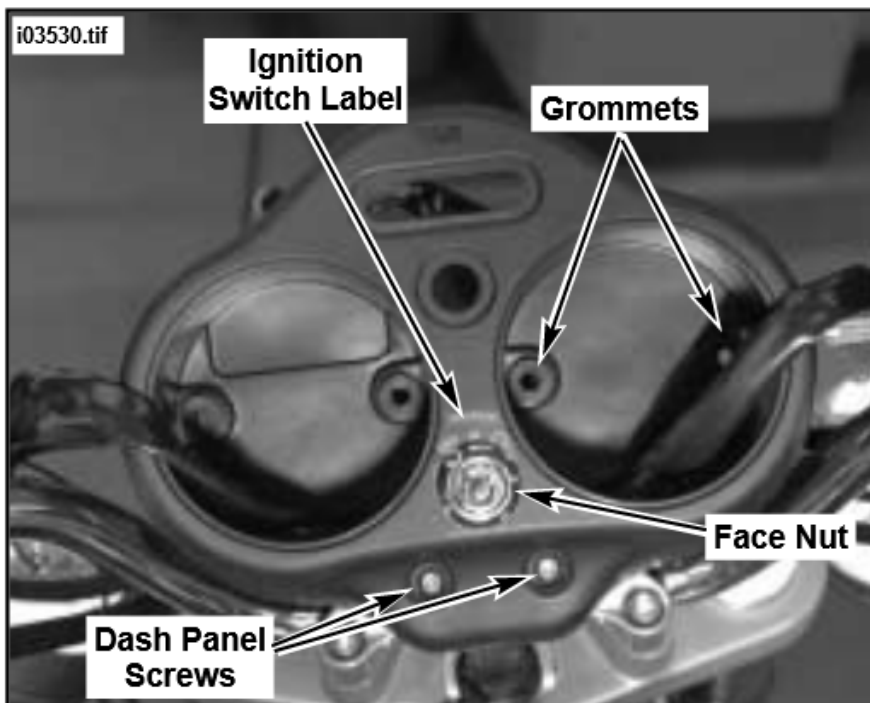

Figure 6. New Dash Panel
16. See Figure 6. Install grommets into holes present in the recessed (gauge) areas of the panel as shown.